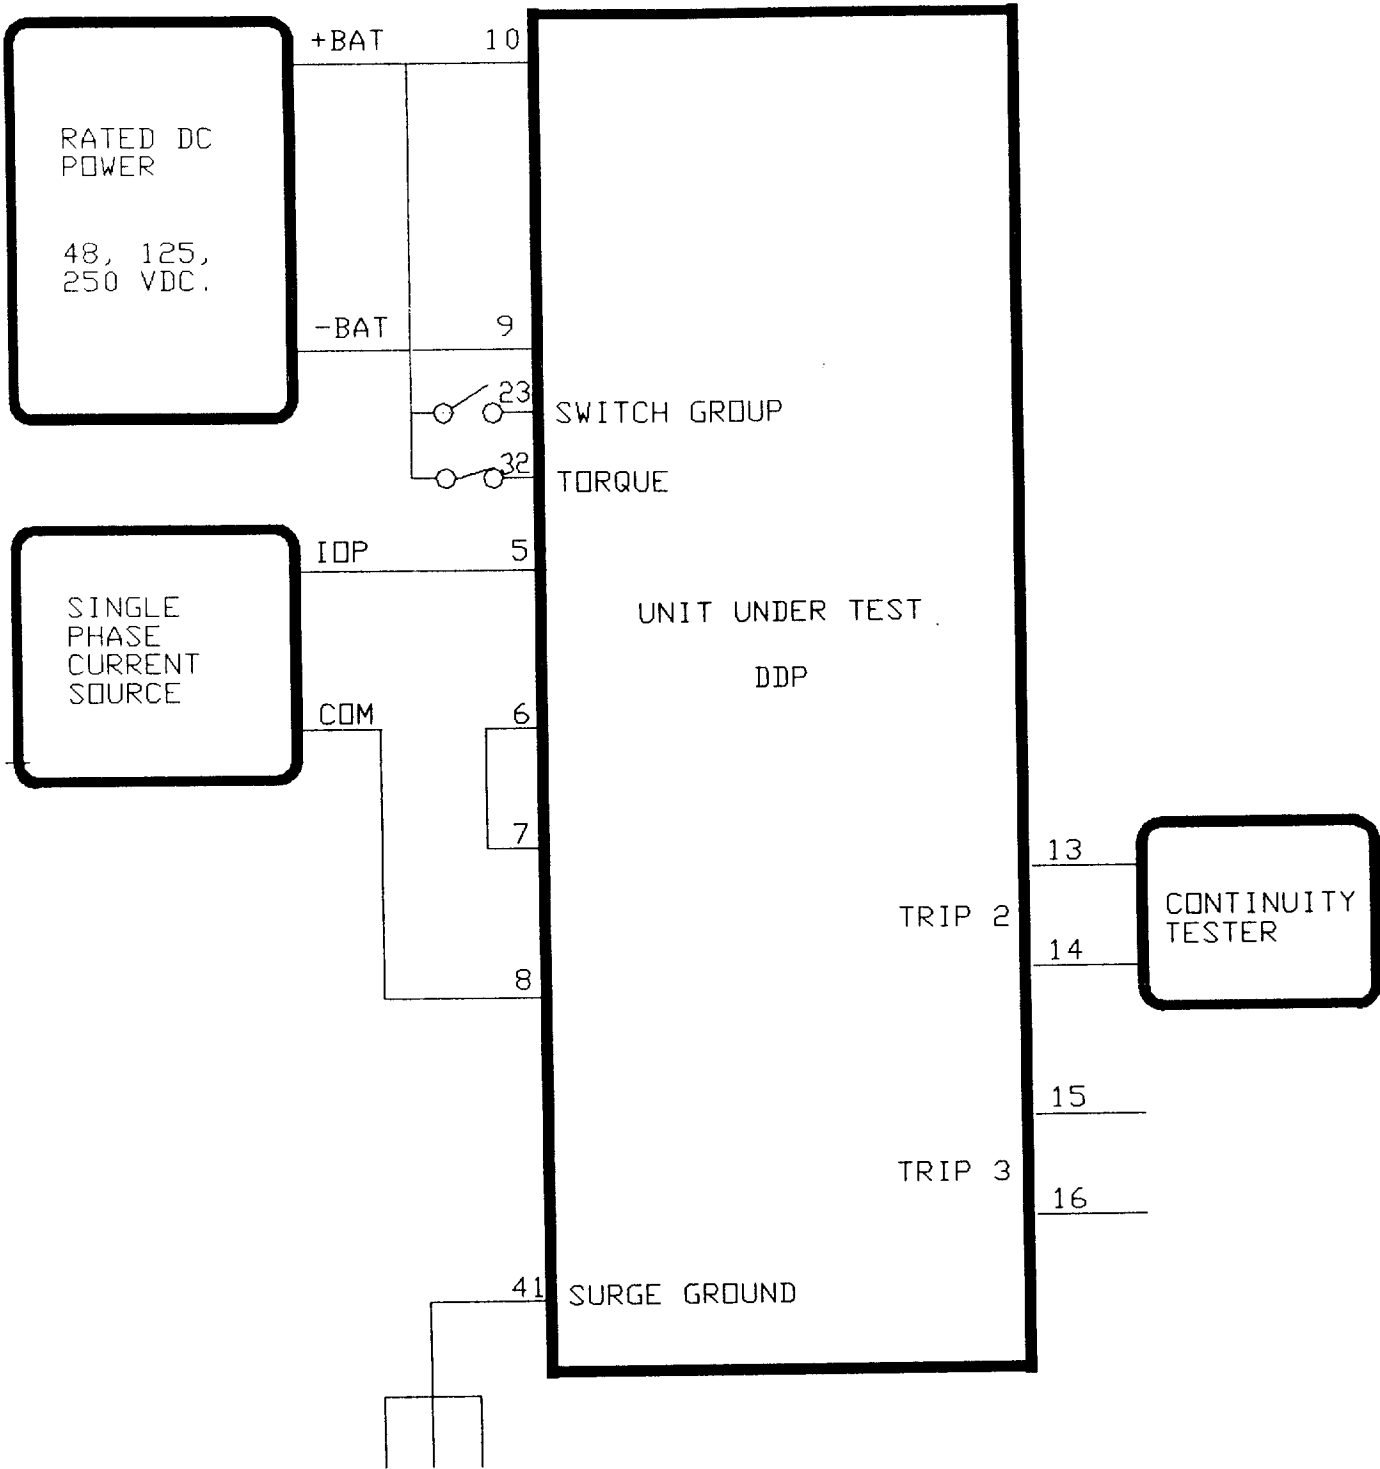

Figure AT-4(0285A5379 [2]) DDP IOC Ground Trip Test Connections
1. Connect the relay as per figure AT-4.